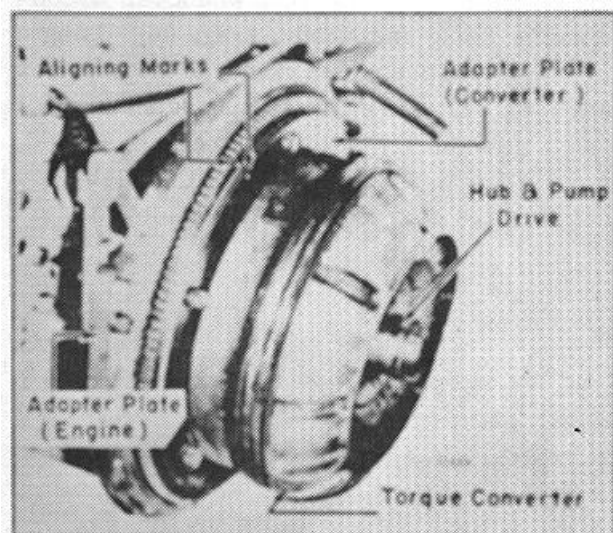
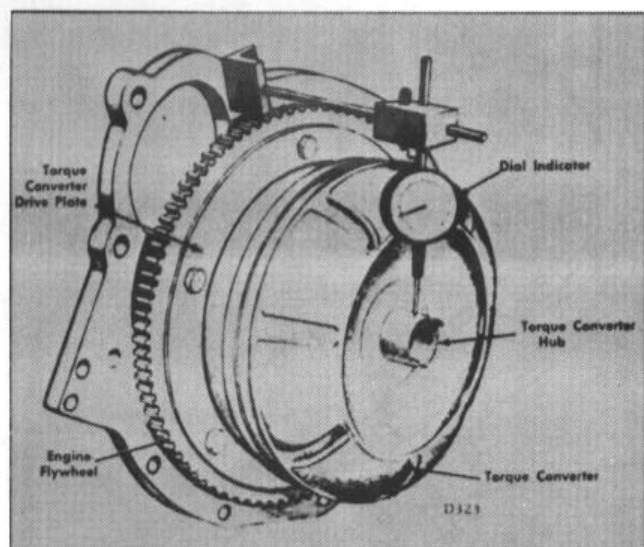

Figure 36.
Figure 41.
Make sure the aligning marks are clearly visible on the flywheel and converter. If they are not already marked, mark the two components (Fig. 36) to retain relationship upon reassembly. Do this before removing the converter attaching bolts.
2. Make certain the match mark on the converter plate lines up with the mark on the flywheel. Bolt the converter adapter plate to the converter (Fig. 40) and mount the converter to the engine flywheel, match-marking the plate and flywheel, whenever a converter is being installed. (Fig. 36) Using a dial indicator, check the runout of the impeller hub. (Fig. 41) The total runout should not exceed .005 inch. If this figure is exceeded, pry between the converter and the plate and bend until the correct runout is achieved.